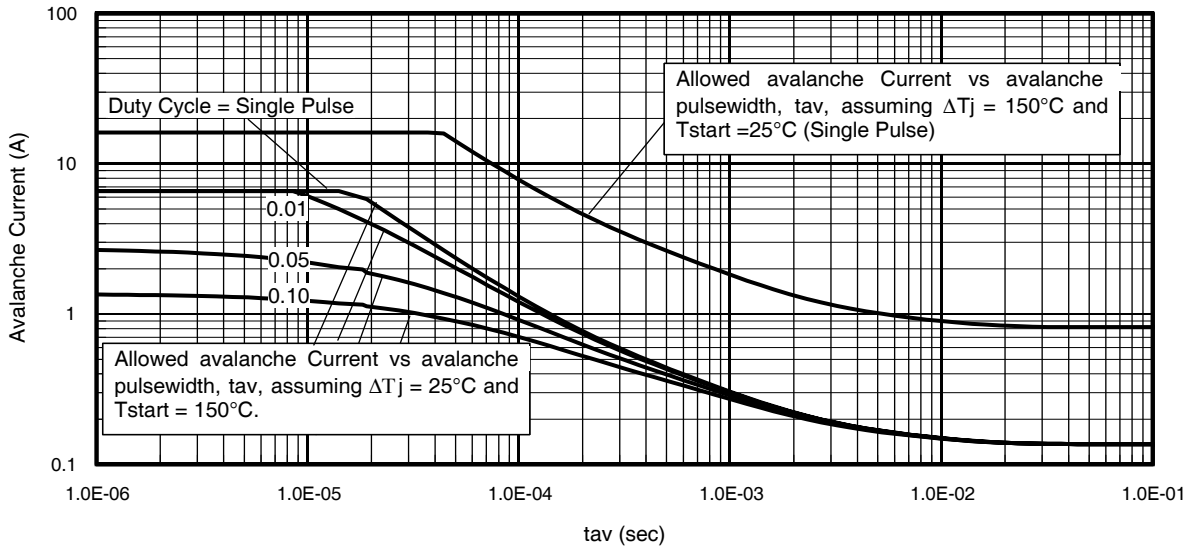

Fig 14. Typical Avalanche Current Vs. Pulsewidth
- ① Repetitive rating; pulse width limited by max. junction temperature.
- ② Starting $T_J = 25^\circ\text{C}, L = 1.46mH, R_G = 25\Omega, I_{AS} = 10A$.
- ③ Pulse width $\leq 400\mu s$; duty cycle $\leq 2\%$.
- ④ R_{θ} is measured at T_J of approximately 90°C .
- ⑤ Limited by T_{jmax} . See Figs. 14, 15, 17a, 17b for repetitive avalanche information
Notes on Repetitive Avalanche Curves , Figures 14, 15:
7. ΔT = Allowable rise in junction temperature, not to exceed T_{jmax} (assumed as 25°C in Figure 14, 15).